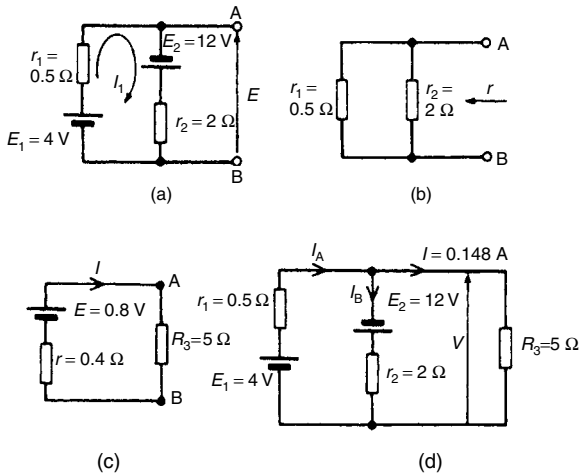

Figure 13.43
- (i) The $5\ \Omega$ resistance is removed from the circuit as shown in Fig. 13.43(a)
- (iii) Removing the sources of e.m.f. gives the circuit shown in Fig. 13.43(b), from which resistance
- (iv) The equivalent Thévenin's circuit is shown in Fig. 13.43(c), from which, current
From Fig. 13.43(d),
Also from Fig. 13.43(d),
[Check, from Fig. 13.43(d), $I_A = I_B + I$, correct to 2 significant figures by Kirchoff's current law]